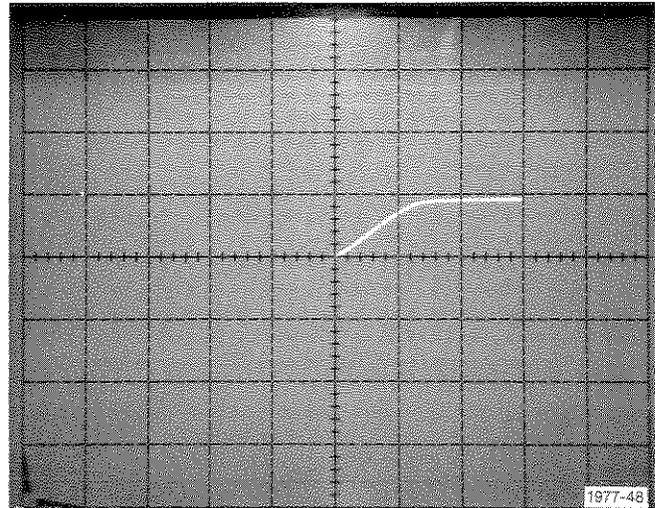

Fig. E-12. Output sink current.
b. Check the Output Sink Current, represented by the vertical deflection from the display zero reference (see Fig. E-12). The specification sheet lists 16 mA as being typical for Output Sink Current.